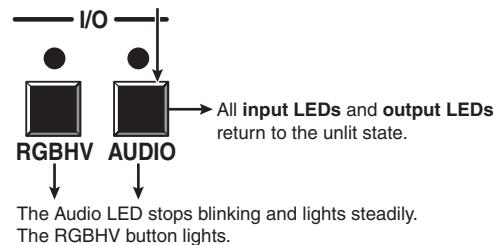

Figure 3-49 — Deselect Audio mode
5. Press and release the Audio button (figure 3-49).